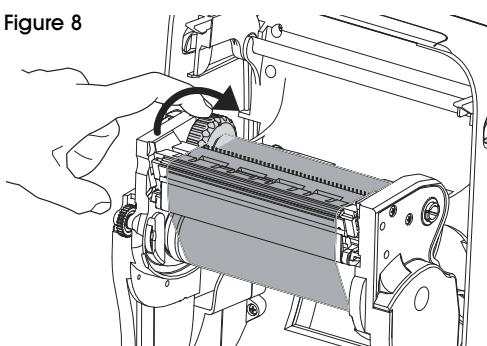

Figure 8
5. Rotate the thumb wheel on the left side of the supply spindle towards the rear of the printer until the ribbon is pulled tight across the printhead. (See Figure 8)